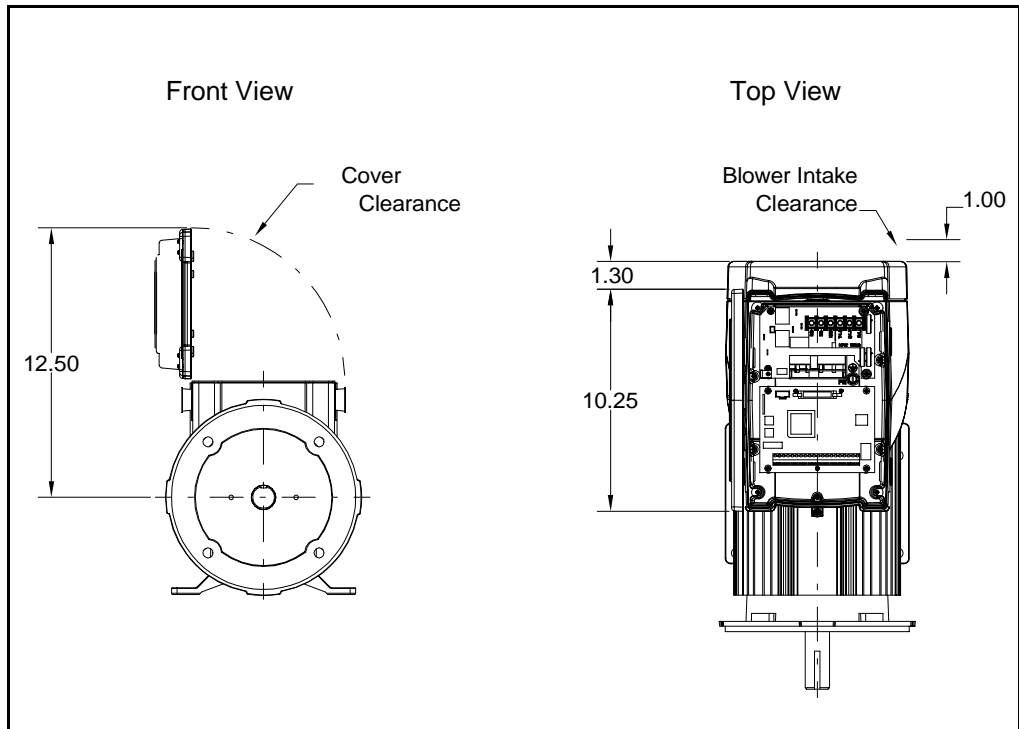

Figure 2.2 – Access Clearances
- Locate the unit where it will have unrestricted clearance as shown in figure 2.2.
- Locate the unit where it will be kept clean (away from oil, coolants, or airborne contaminants). The VSM500 unit has an IP54/Type 12 rating. An IP rating designates the enclosure's level of protection. The first number in the rating (5) indicates that the VSM500 unit is dust-resistant. The second number (4) indicates that the unit is splashproof.
- Verify that there will be adequate clearance for opening the cover. See figure 2.2.
- Verify that there will be adequate clearance for blower intake. See figure 2.2.